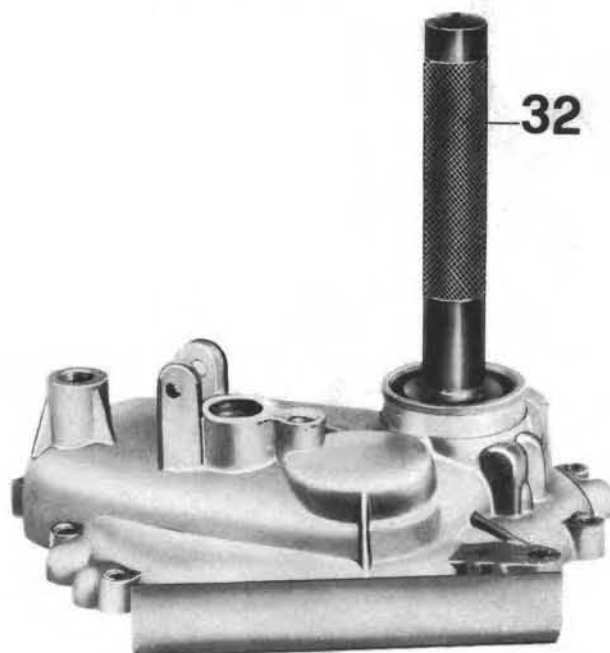

Fig. 86/1
(See A fig. 86/16)
- remove layshaft bearing using tool 14929200 (32 in fig. 86/1).